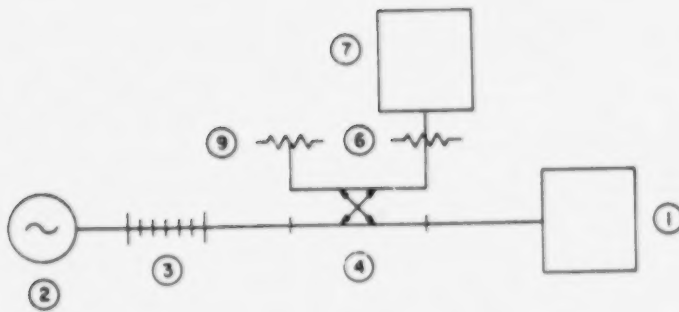

Figure 3b.
1. Adjust the generator (2) to a convenient low frequency and a level sufficient for a stable reading on the Model 42 (7).
2. Adjust the double-stub tuner (3) for a maximum indication on the Model 42 (7).
3. Replace the precision termination (5) with a standard power meter (1). (See Figure 3b.) With generator (2) set at the same frequency as in Step 1, adjust the generator output level for a convenient reading on the standard power meter (1). Record the output reading of the Model 42 (7). Record the indicated reading on the standard power meter (1) as (P_{ind_1}).